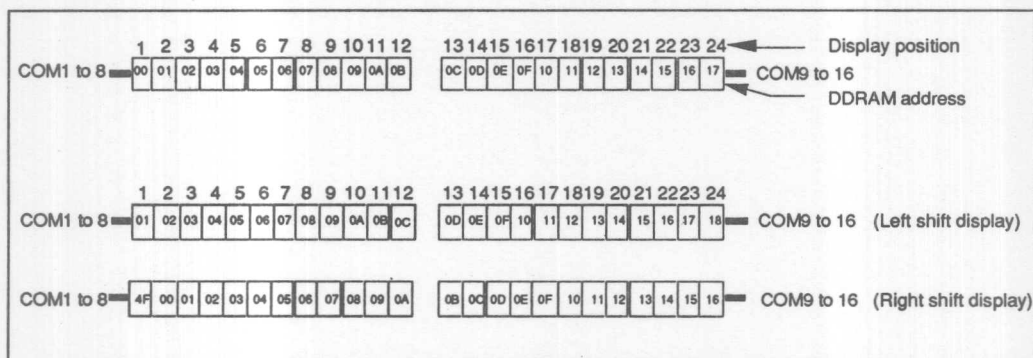

Figure 2 1-line by 24-Character Display (5-dot font width)
- Case 1: When there are fewer than 80 display characters, the display begins at the beginning of DD RAM. For example, when 24 5-dot font-width characters are displayed using one HD66712, the display is generated as shown in figure 2.